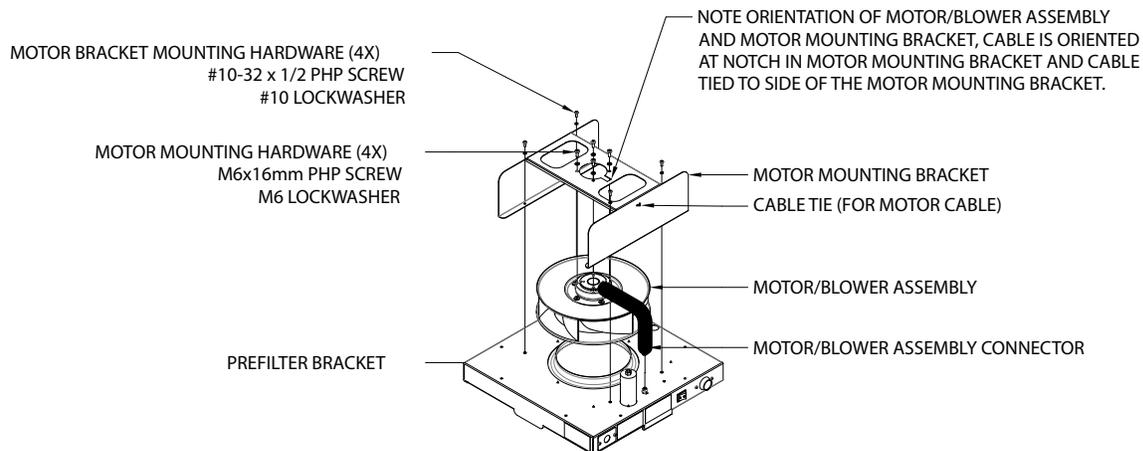

Figure 7: RSRE Motor Replacement
Step 3. While supporting the motor blower assembly from below, remove the six screws on the underside of the venturi ring and lower the assembly. (See Figure 7). Note the baffle does not have to be removed to remove the motor/blower assembly.